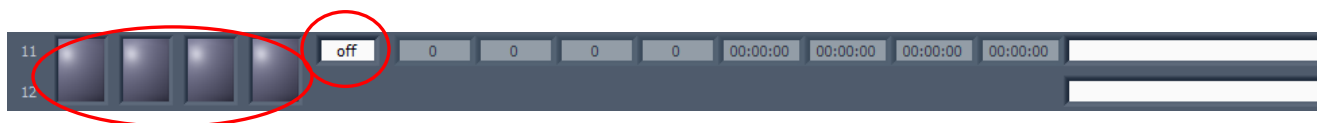

Figure 12.2. A de-selected lane-pair. The programming mode and “Ref Lane” field must be OFF.
- Users should double-check that the unused lanes are de-selected in the size selection protocol (**Figure 12.2**)